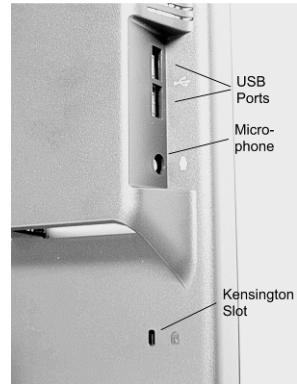
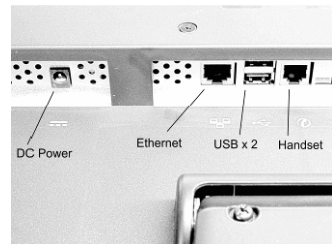

Figure 1-6
Figure 1-7
1. USB devices such as the Keyboard can be connected to ports on the side or bottom (See Fig. 1-6 and Figure 1-7)
2. The unit may be secured through the use of Kensington locking devices. (See Figure 1-6)